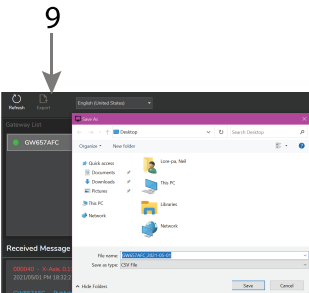
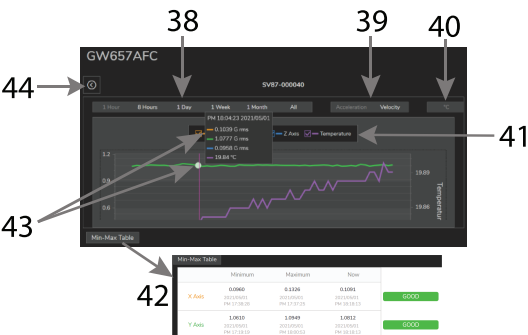

Figure 10.2 Export measurement data as CSV file
Figure 10.8 Trend Chart and MAX/MIN windows
- 29. Open the trend chart graphs windows (shown in Figure 10.8).
When you select the Trend chart icon from the sensor tab window (see Figure 10.2) the screens shown in Figure 10.8 become available.